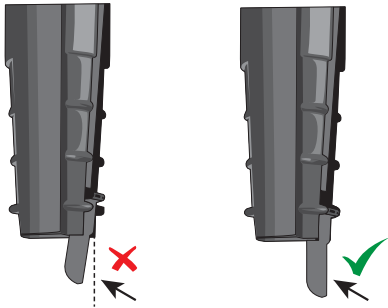

Figure 15
- d. Always verify that the locking tab on the closure is fully engaged, otherwise a proper seal cannot be ensured. See Figure 15.